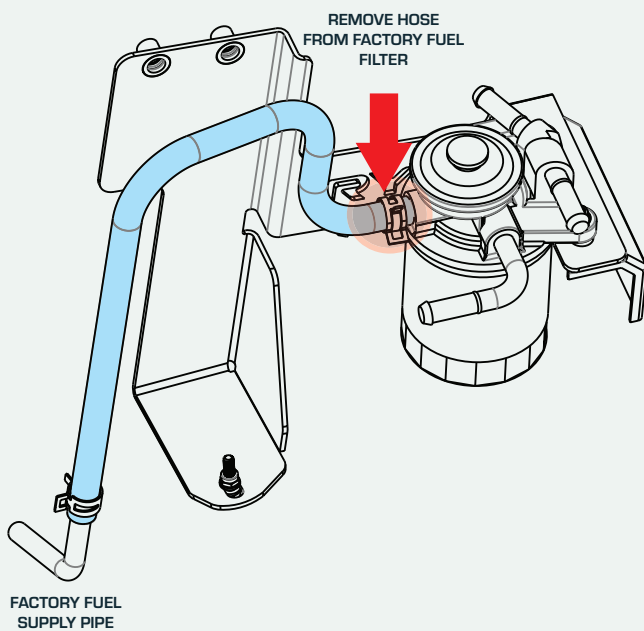

FIGURE 4
- 5 Locate the factory fuel inlet hose (coloured blue in FIG. 4) at the factory fuel filter. Loosen the factory fuel hose clamp and disconnect the fuel supply line from the factory filter. Have a rag ready to capture any diesel that may spill out of the fuel line and the fuel filter.
- 6 Trace the other end of the fuel supply line and disconnect it from the metal factory fuel supply pipe, as per FIG. 4. Remove the factory fuel supply line from the vehicle and store for safe keeping. Have a rag ready to capture any diesel that may spill out of the fuel lines.